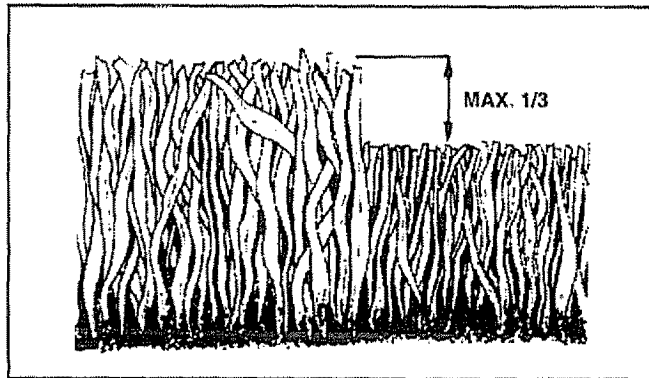

FIG. 13
- For best results, adjust the lawn mower cutting height so that the lawn mower cuts off only the top one-third of the grass blades (See Fig. 13). If the lawn is overgrown it will be necessary to raise the height of cut to reduce pushing effort and to keep from overloading the engine and leaving clumps of mulched grass. For extremely heavy mulching, reduce your width of cut, mow slowly and raise the rear of the lawn mower one wheel adjuster setting higher than the front.